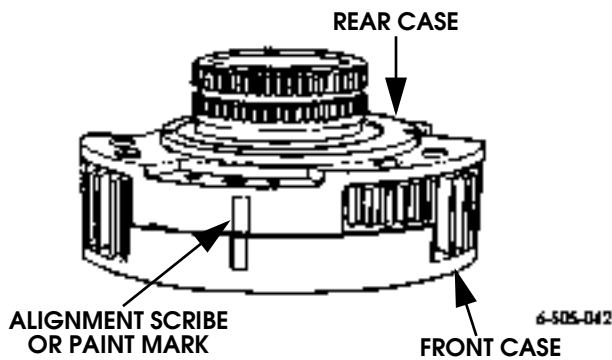

Figure 5-110: Marking Differential Cases for Assembly Reference
- a. Scribe or paint mark front and rear cases for assembly reference (Figure 5-110).